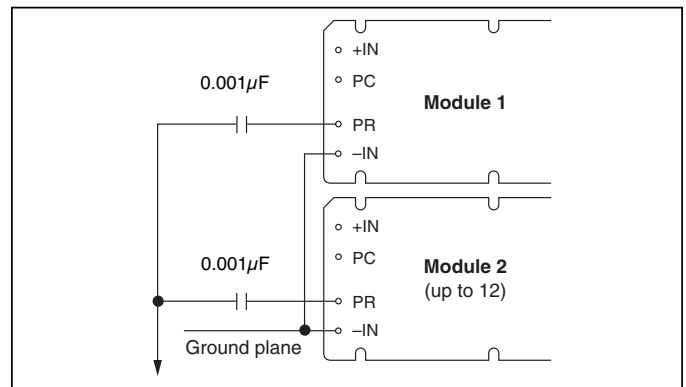

Figure 10 — AC coupled single-wire interface.
**AC coupled single-wire interface.** All PR pins are connected to a single communication bus through  $0.001\ \mu\text{F}$  ( $500\ \text{V}$ ) capacitors. This interface supports current sharing and is fault tolerant except for the communication bus. Up to three converters may be paralleled by this method. See Figure 10.